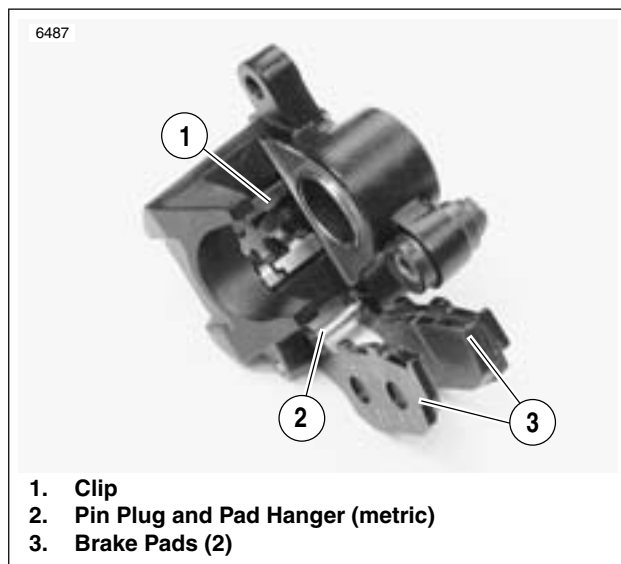

Figure 2-50. Brake Pads
1. See Figure 2-50. Place clip (1) inside caliper body as shown.
3. See Figure 2-50. Install brake pads (3) using pad hanger and pin plug (2).